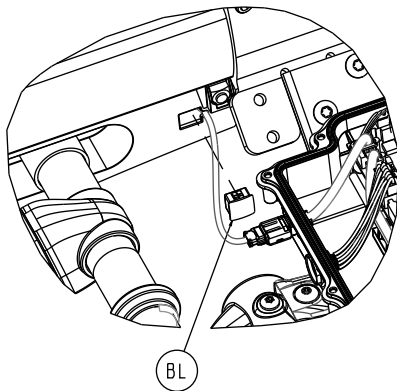

Figure 108 – Remove the hole plug
8. Using a pick, remove the hole plug (BL) for the MTS sensor from the back of the slider block (Figure 108). Save the hole plug.